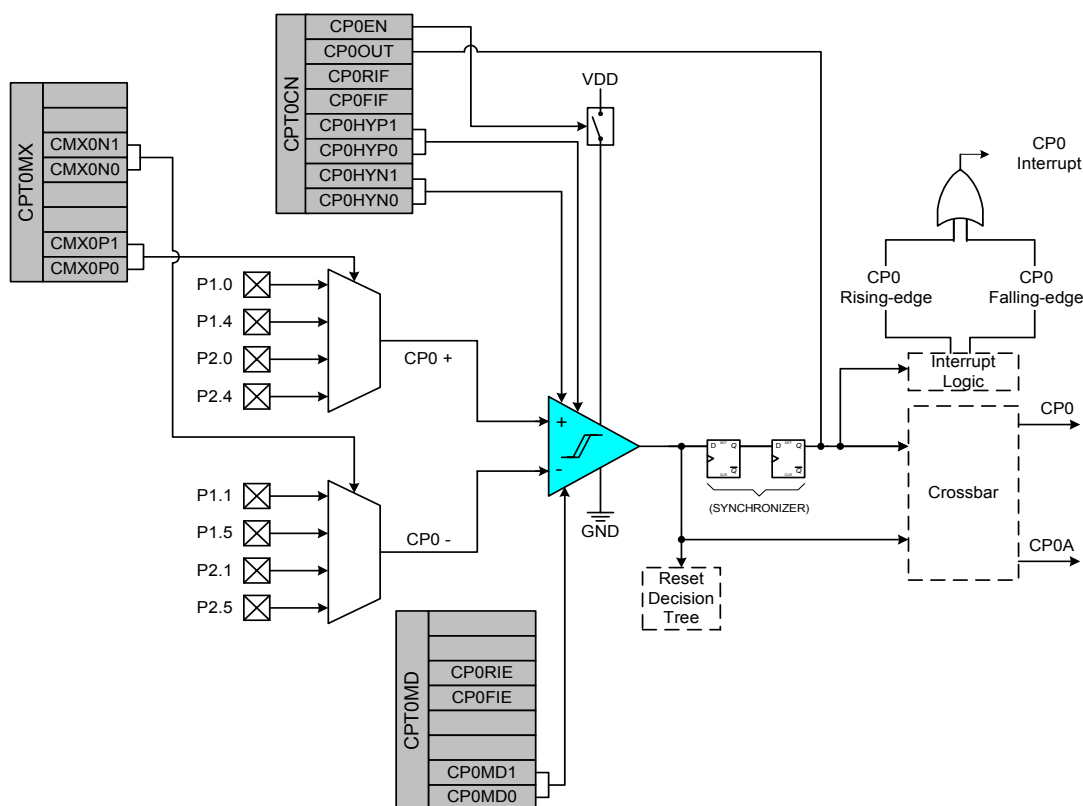
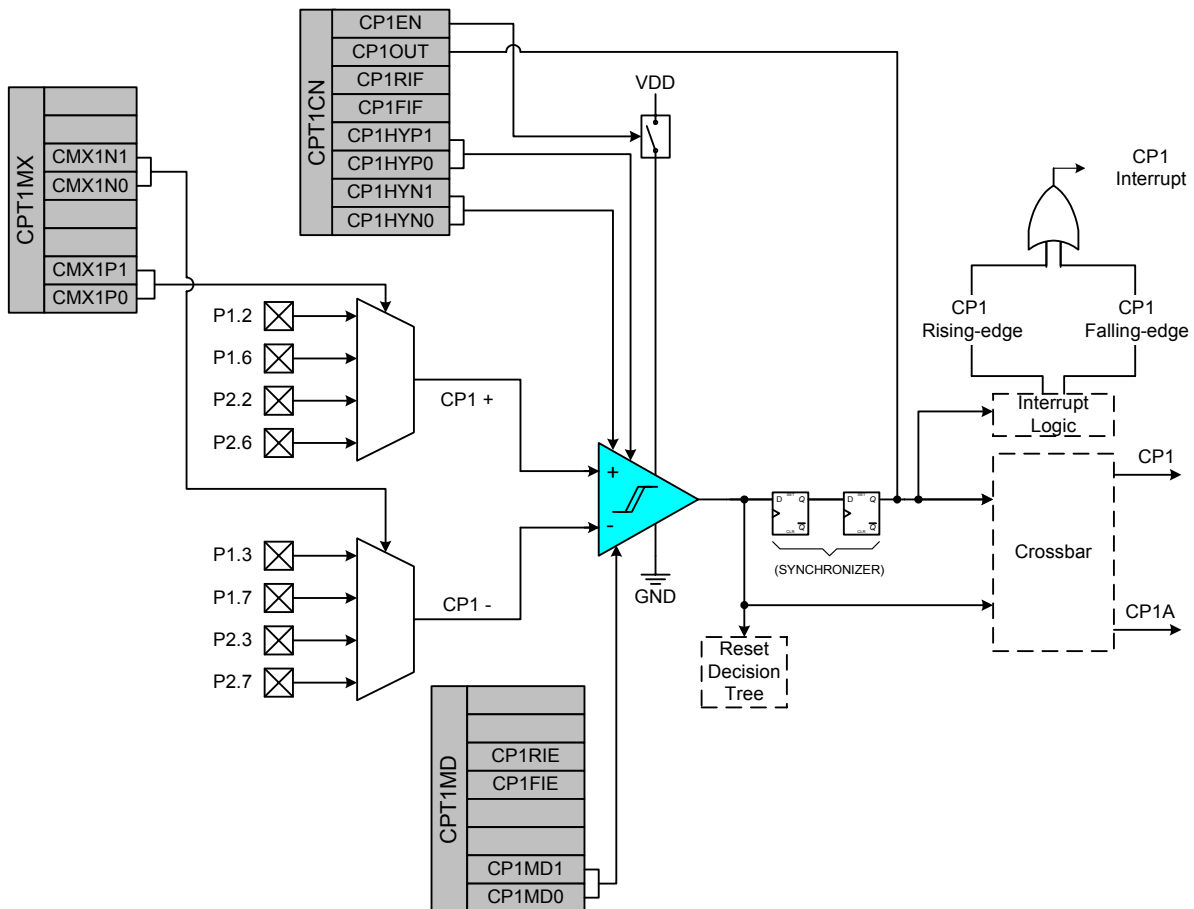

Figure 7.1. Comparator0 Functional Block Diagram
Figure 7.2. Comparator1 Functional Block Diagram
C8051T61x devices include two on-chip programmable voltage comparators: Comparator0 is shown in Figure 7.1; Comparator1 is shown in Figure 7.2. The two comparators operate identically with the following exceptions: (1) Their input selections differ as shown in Figure 7.1 and Figure 7.2; (2) Comparator0 can be used as a reset source.